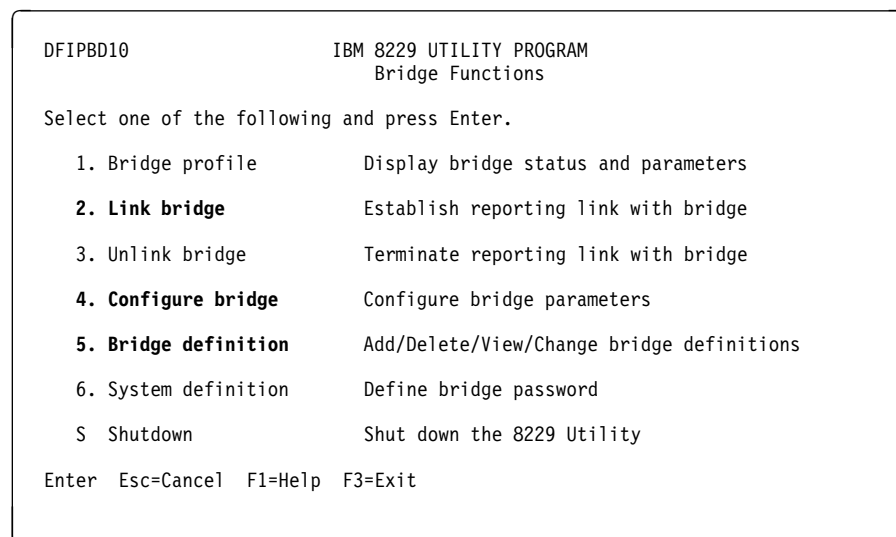

Figure 2-17. IBM 8229 Utility Program Main Menu
- 1) \_\_\_\_ Refer to Figure 2-17, select option **5. Bridge definition**, then press **enter**.